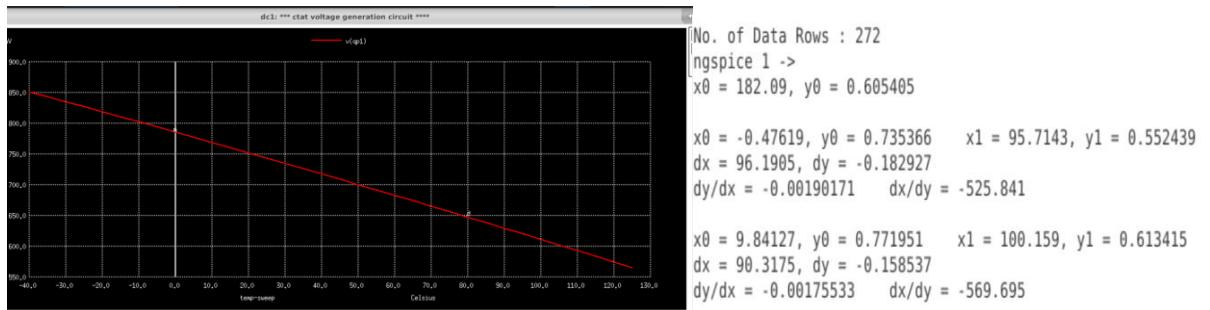
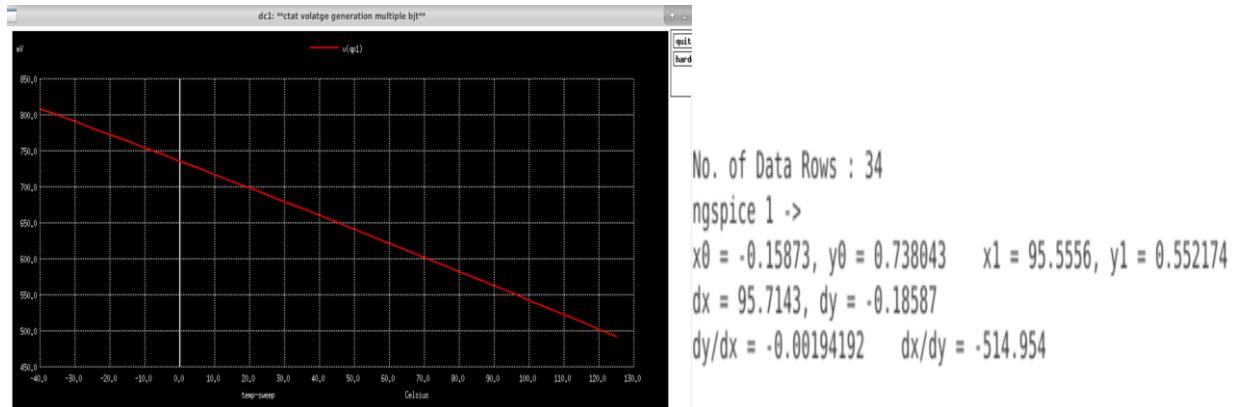

Fig 5. Single PNP transistor and slope
Fig 6. Multiple PNP transistors($m=8$) and slope
- In fig 5 u can observe slope is less negative compared to fig 6.